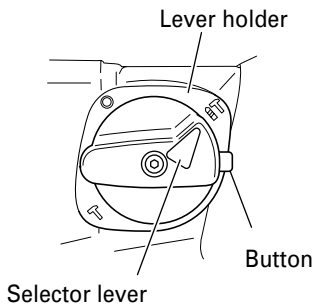

Fig. 5
- (1) Switching to "rotation + hammering"
- (b) Align ▲ of the selector lever and ⚡ of the lever holder as illustrated in Fig. 5.